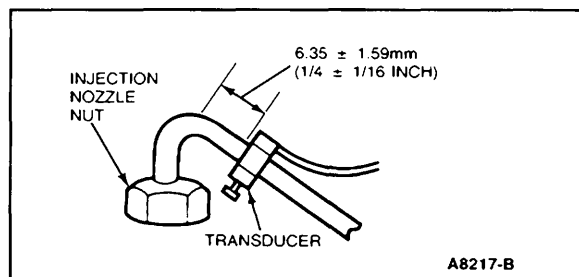

Figure 14 Pressure Transducer Attachment
2. Attach the pressure transducer to the No. 1 injector line (Figure 14) at the injector. Be sure the injector line is clean and free of paint where transducer is attached. Tighten the thumbscrew on the transducer finger-tight when attaching to the injector line.